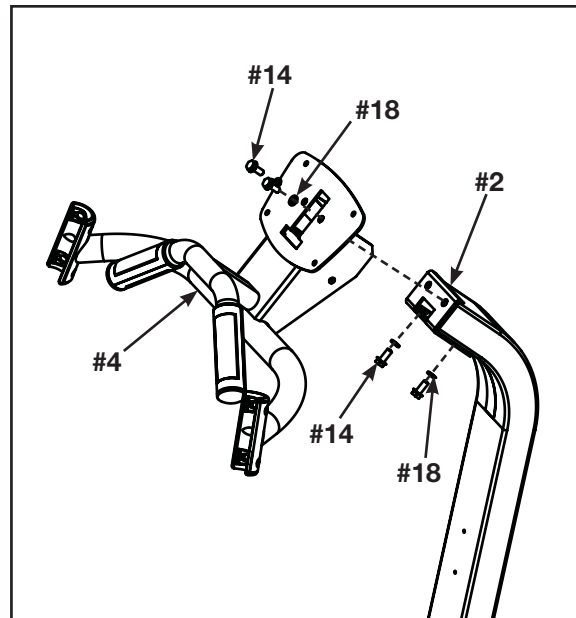

Figure 6
- A. Locate the display handrail (#4), four screws 5/16-18 x .75" (#14) and four washers 5/16" (#18). See Figure 6.